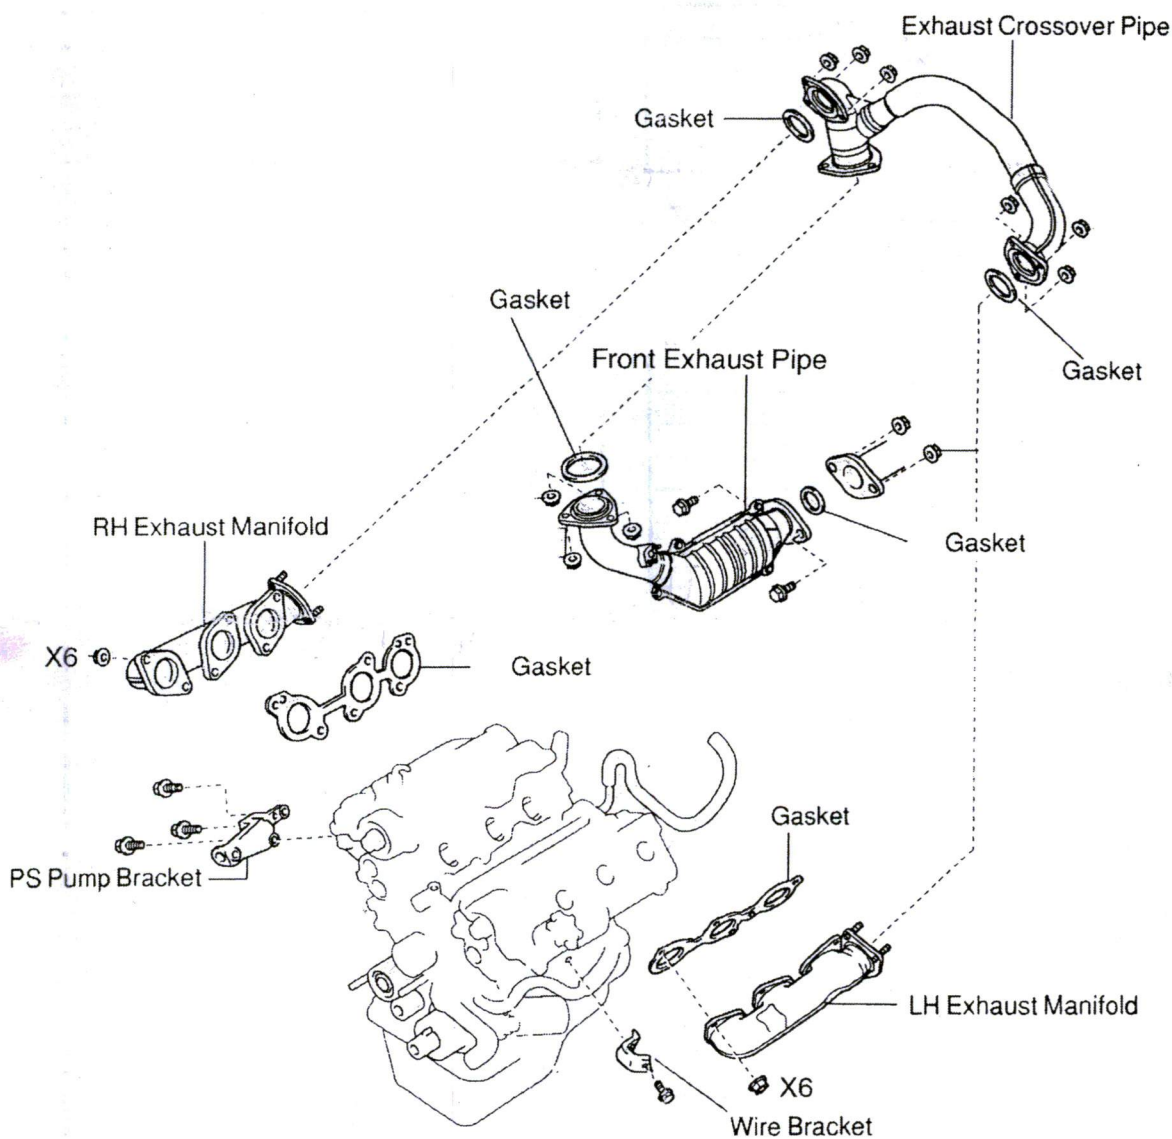

Figure 1
NOTE: The following steps will often refer to Figure 1. Please review Figure 1.
2. Remove the 3 nuts that connect the front exhaust pipe to the crossover pipe and the 2 bolts connecting the catalytic converter to the exhaust system and remove the front exhaust pipe from underneath the vehicle (Figure 1).
5. Loosen the other wire bracket on the left side of the vehicle in order to have easier access to the manifold flange nuts (Figure 1).